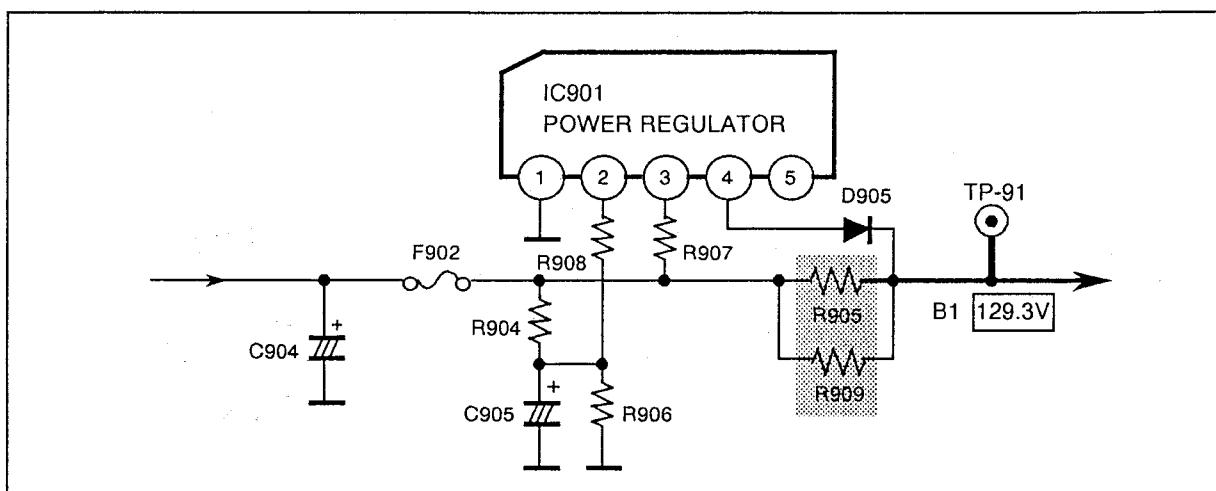

Fig. 2
- (1) Make the short circuit across R905 and R909, (shown in Fig. 2) under normal operating condition.
(2) Confirm the picture goes out.